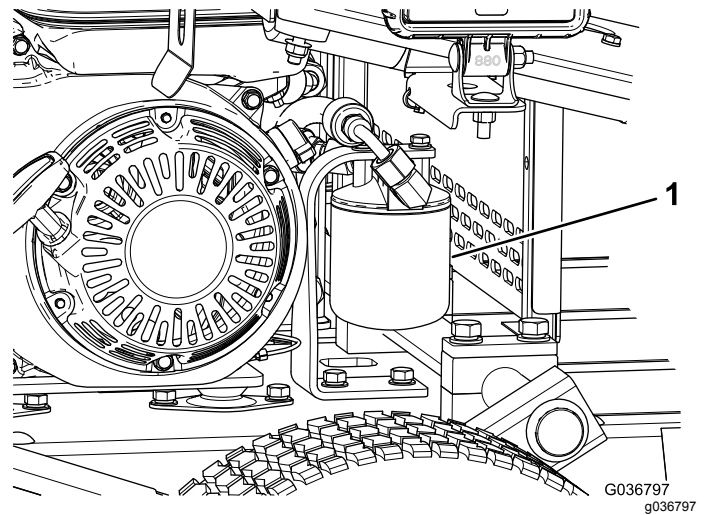

Figure 37
5. Place a drain pan under the filter and remove the filter (Figure 37).